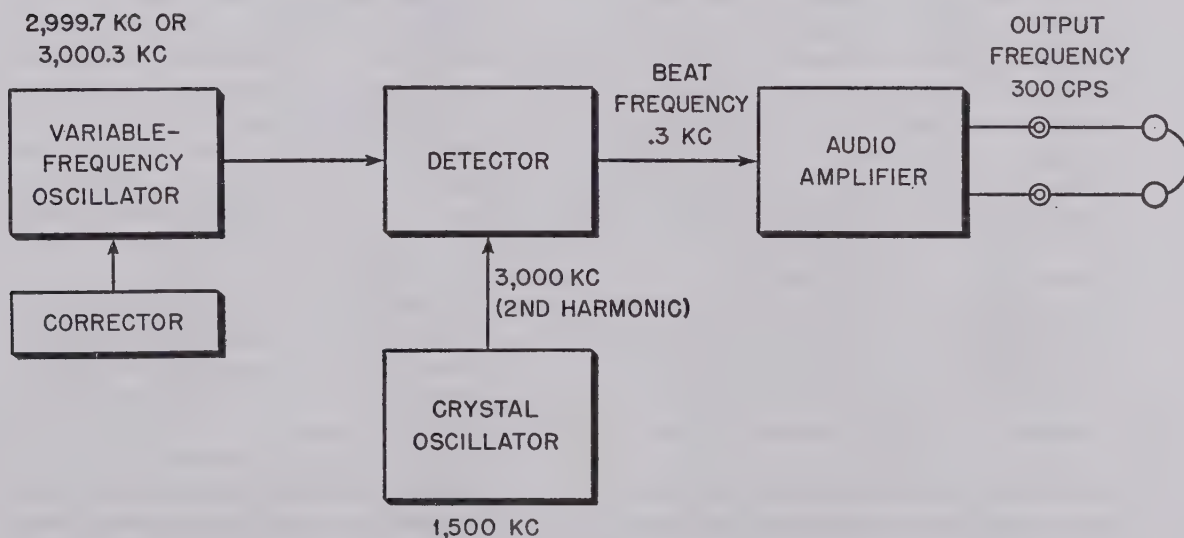

Figure 9. Typical arrangement for calibrating a frequency oscillator.
- (1) Most heterodyne frequency meters contain a stable crystal oscillator which is used for calibrating the frequency of the variable oscillator. The crystal oscillator produces a number of harmonics permitting calibration of the meter at various frequencies. These points of calibration are called *crystal check points* and the frequencies at which they occur are given in a *calibration book* which is used to determine the frequency of the dial setting.
- (2) Figure 9 shows a typical arrangement for calibrating a variable-frequency oscillator. Assume that the calibration book shows a crystal check point at a frequency of 3,000 kc. The dial setting of the variable-frequency